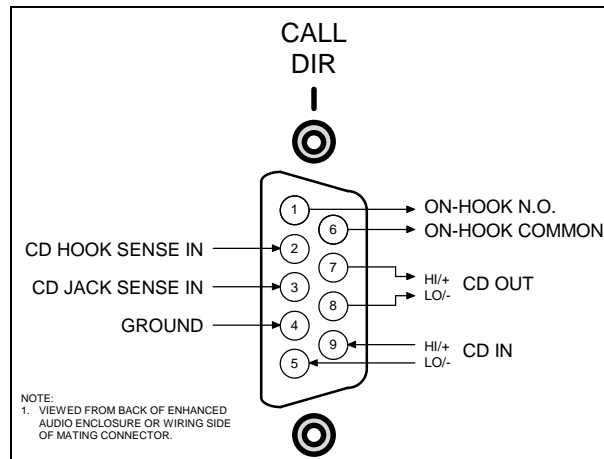

Figure 11 – Call Director Interface Connector At Enhanced Audio Enclosure
Table 10 describes the various signals between the Enhanced Audio Enclosure and the Call Director. The descriptions are relative to the Enhanced Audio Enclosure. All Enhanced Audio Enclosure connections are made at the "CALL DIR" female DB-9 connector. Figure 11 and Table 12 indicate the connector's pin-out.
- ❑ Interconnect the Enhanced Audio Enclosure to the Call Director as required per Tables 10 and 12, Figure 11, and the Call Director's documentation.